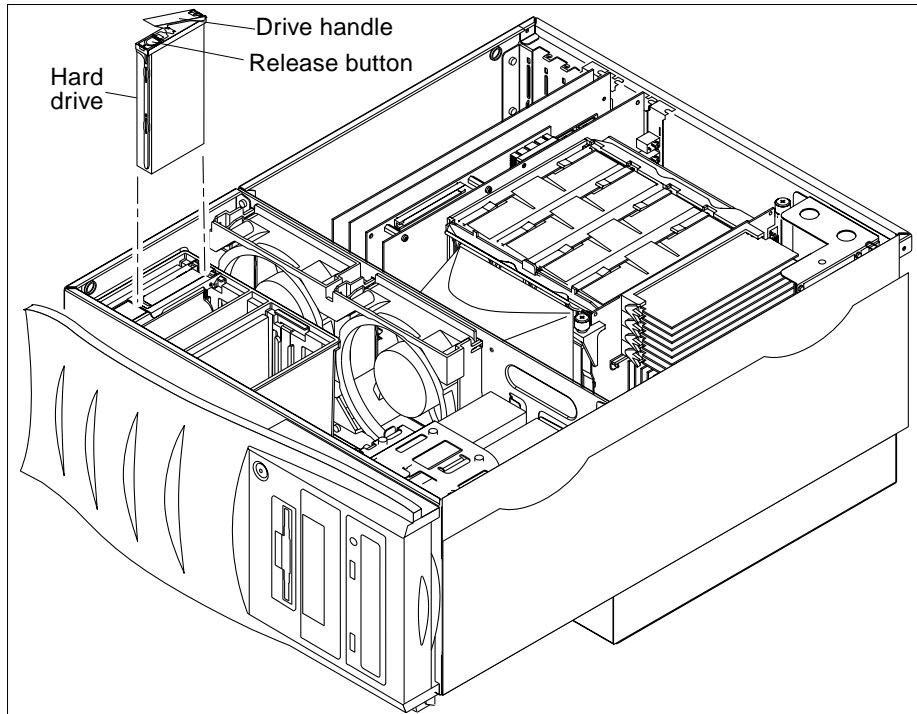

FIGURE 8-1 Removing and Replacing a Hard Drive
3. Remove the hard drive as follows (FIGURE 8-1):
1. Replace the hard drive as follows (FIGURE 8-1):